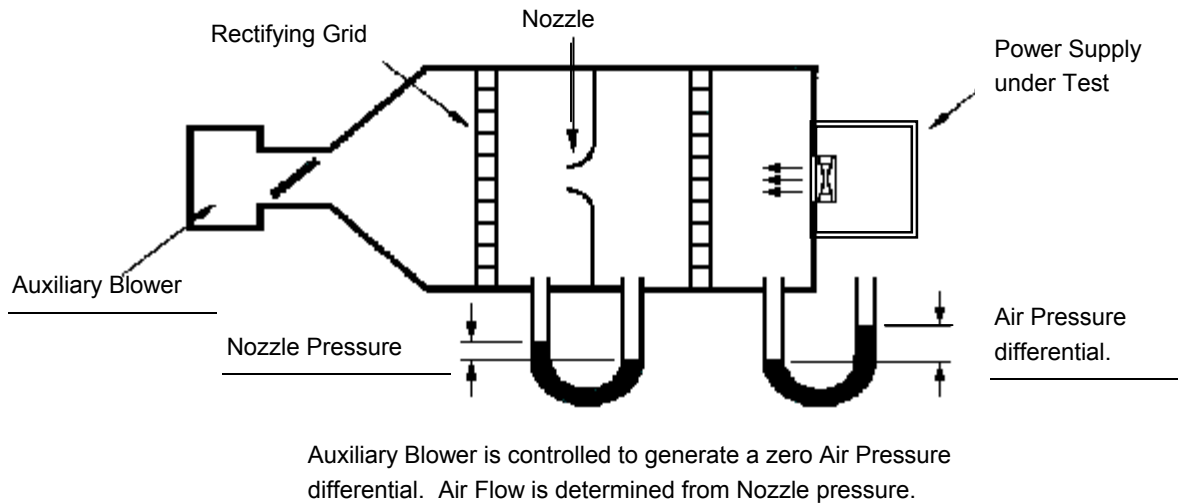

Figure 8. AMCA* Standard 210
- (1) Airflow in cubic feet per minute (CFM) through the power supply to be measured per AMCA* Standard 210 (see Figure 8).
- (2) The declared sound power level shall be measured according to ISO 7779 for the power supply unit alone (i.e. not in a system chassis) and reported according to ISO 9296.